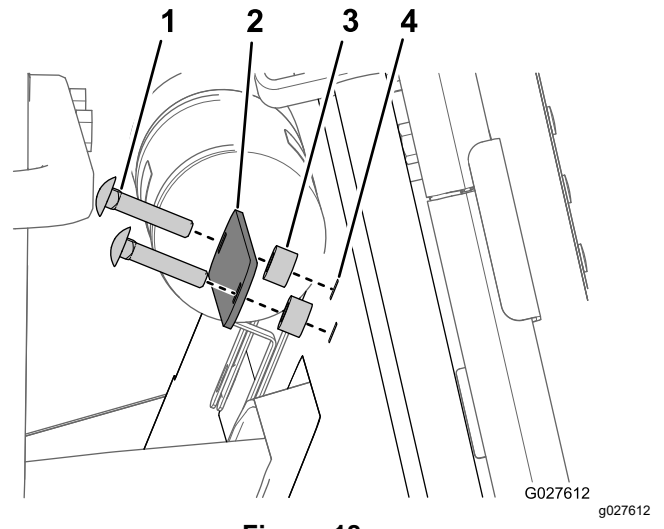

Figure 18
5. Assemble the 2 carriage bolts (1/4 x 1-1/4 inches), strap, and 2 spacers (1/4 inch) to the holes that you made in the interior foam panel (Figure 18).